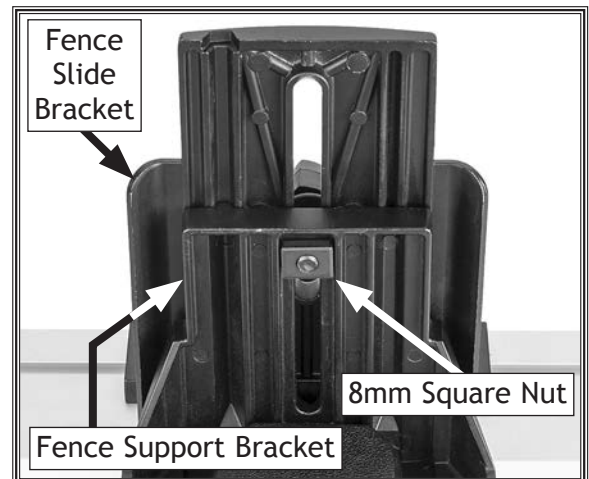

Figure 14. Square nut installed on fence slide lock handle.
- Install 8mm square nut on fence slide lock handle and tighten handle to lock in place (see Figure 14).